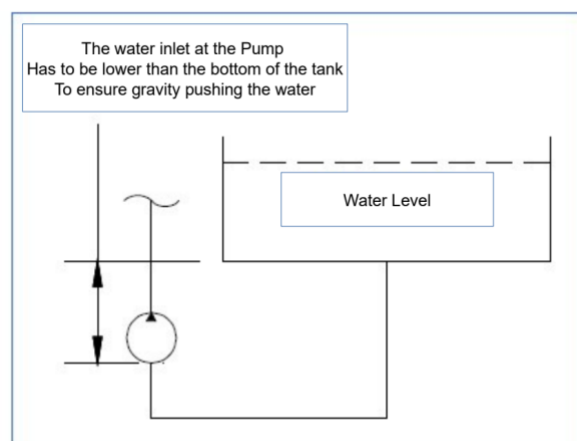

Figure 4.3 – Gravity Feeding Source
- c) Gravity feeding water source (See Figure 4.3). Use a hose with a diameter of at least 1-1/2" to connect the water tank to the power unit water inlet.
Ensure that the water source can reliably deliver the maximum pump flow of 30 GPM (115 LPM). **A minimum flow of 40 GPM (150 LPM) is recommended** to ensure that the pump is not starved of water. If connecting to a gravity feed tank, locate the tank outlet above the water inlet connection on the power unit to ensure a flooded suction line. (See Figure 4.3).